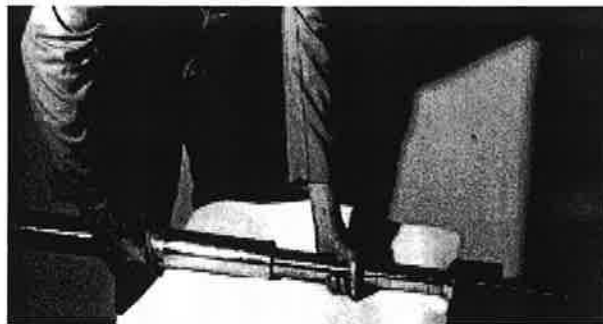

Figure 66. Extend Boring Bar
- A. Hold body tube and rotate feed tube clockwise until boring bar is fully extended from body tube. The feed tube should be at the 18" mark on the body tube of the T-101b, or 28" mark on the T-101b/XL. See Figure 66.